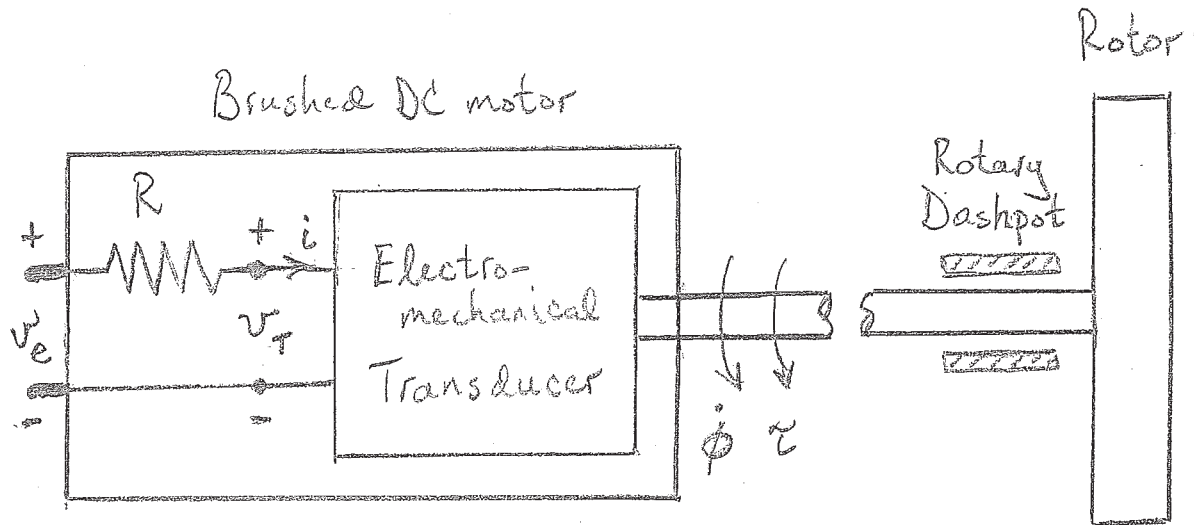

Fig. 1. Phenomenological model of a brushed DC motor.
A model of a brushed DC motor is shown in Fig. 1. The model is phenomenological; the details of the internal mechanical and magnetic operation of the motor are not considered here. The essential element of the model is an electromechanical transducer that converts electrical energy to rotational mechanical energy. The constitutive equations that relate the electrical variables of the transducer to the mechanical variables of the transducer are
With the senses of  $v_T$ ,  $i$ ,  $\dot{\phi}$ , and  $\tau$  defined in Fig. 1, eqn. (3) states that the electrical power into the transducer is equal to the mechanical power out of the transducer. The transducer is thus a *conservative* electromechanical device.
The electrical ports of the transducer are connected in Fig. 1 to a resistor  $R$  that represents the electrical resistance of the motor windings. The voltage  $v_e$  in Fig. 1 is the voltage across the actual electrical terminals of the motor. Kirchhoff's voltage law for the loop that contains the external voltage, the resistor, and the electrical ports of the transducer is
The output shaft of the transducer in Fig. 1 is connected to a rotor that represents the mechanical load of the motor and a rotational dashpot that